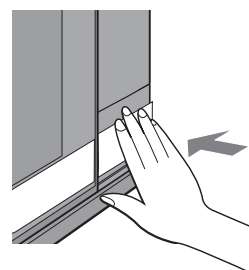

Figure 4
5. Install the water tank by pushing firmly. (Figure 4)